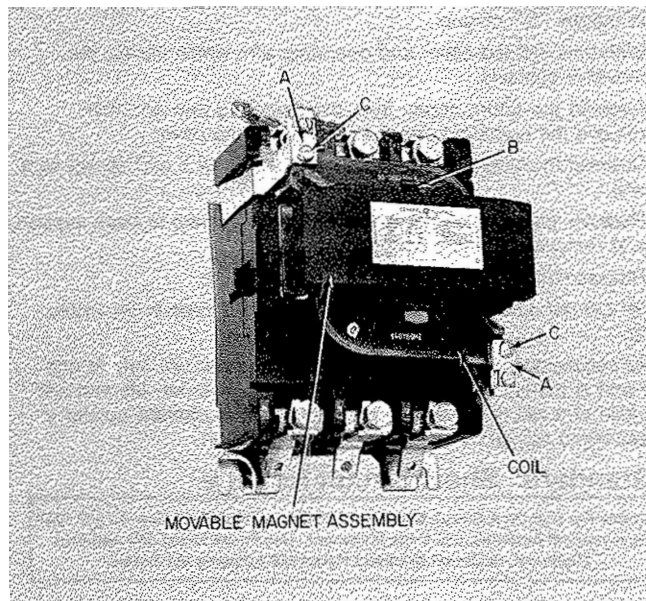

Figure 1. 100 ampere lighting contactor, CR360L.
1. Loosen coil retainer screws (C-Fig. 1). Press against coil while pulling slightly on coil retainers (A-Fig. 1), and move retainers away from coil.
2. Pull one end of spring clip (B-Fig. 1) forward and slide out of slot.